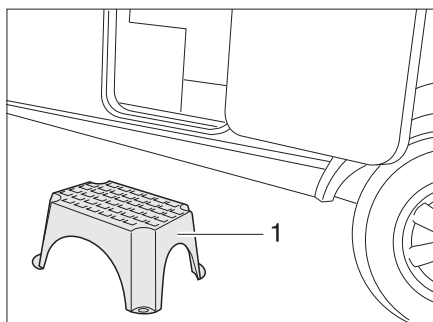

Fig. 17 Entrance step (free-standing)
- Place the entrance step (Bild 17,1) in front of the entrance to the caravan.